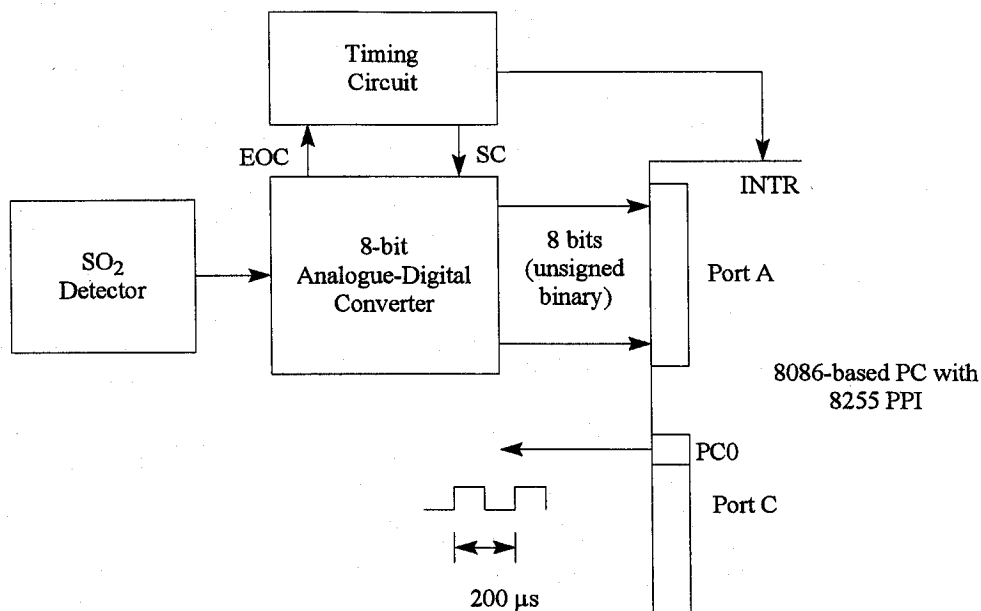

Fig. 5. Block diagram of SO2 alarm system (Q.5).
5. An 8086-based PC is used in an alarm system to monitor the  $SO_2$  emissions from a chemical plant (see Fig. 5). The  $SO_2$  detector outputs an analogue voltage which is proportional to the  $SO_2$  concentration. An analogue to digital converter (ADC) converts this voltage (0 - 255 mV) into an 8-bit unsigned binary number. A separate timing circuit provides a start convert pulse (SC) to the ADC at regular intervals, and, on receipt of an end-of-conversion signal (EOC) from the ADC, enables the INTR input of the 8086. The Interrupt Service Routine (ISR) for this interrupt (vector number 50) reads the 8-bit number from Port A of the 8255, and, if the voltage is greater than or equal to 100 mV, sounds an alarm by outputting a square wave (frequency 5 kHz and duty cycle 50%) continually on  $PC_0$ . A human operator must then intervene to manually reset the computer and attend to the alarm. Write an Assembly language program and Interrupt Service Routine to accomplish this.